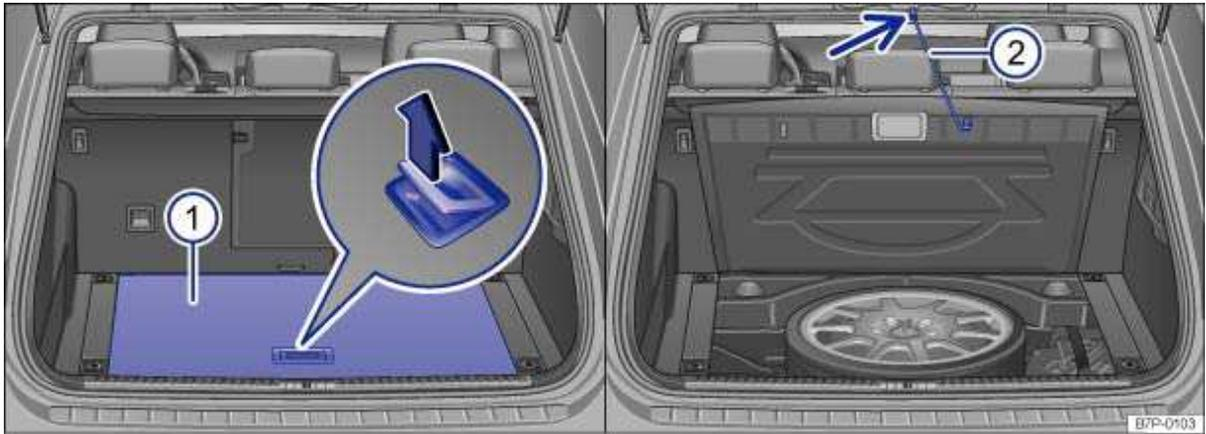

Fig. 105 In the luggage compartment: Lifting luggage compartment floor panel and securing it with retaining strap.
- Unhook the retaining strap ⇒ fig. 105 \(2\) from the top of the luggage compartment (arrow).
- Hook the retaining strap (2) underneath the luggage compartment floor panel (1) and lower the floor panel into place.